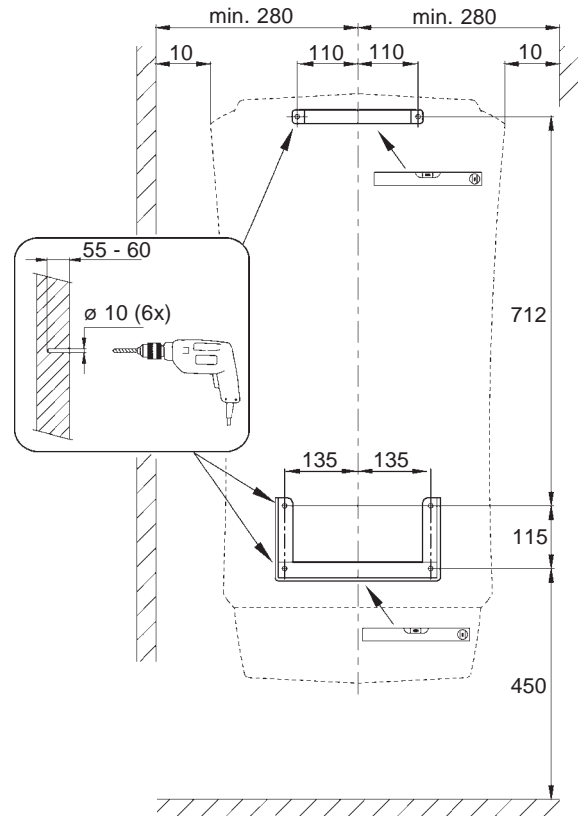

Fig. 11a
4.4 FIT THE SOLAR CYLINDER - Figs. 11a, 11b and 11c